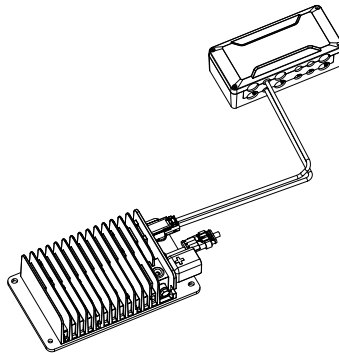

Figure 4.7
- ① Bus box part completed in step 4.2.2
- ② M6 hexagon wrench
- ③ 12V battery (purchased by the user)
- ④ Hex socket wrench suitable for 12V battery terminal screws and nuts
Securely fasten the input terminal of the DC-DC module to any of the three interfaces labeled 96V-①, 96V-②, or 96V-③ on the bus box. Refer to Figure 4.7.